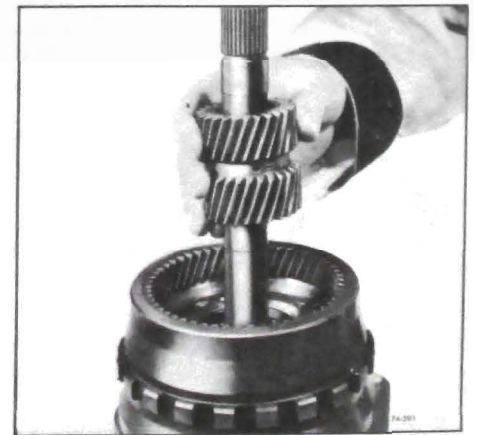

Figure 76-591
12. Install sun gear splines with inner chamfer down. See Figure 76-591.